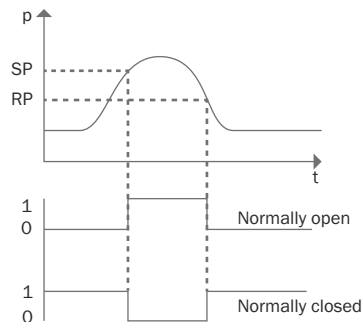

Figure 4: Hysteresis function in the event of excess pressure
In the event of rising system pressure, the output switches upon reaching the appropriate switching point (SP). When the pressure drops again, the output does not switch back until the reset point (RP) has been reached. If the applied pressure fluctuates around the switching point set on the pressure switch, the hysteresis keeps the switching state of the outputs stable (see figure 4, page 48).